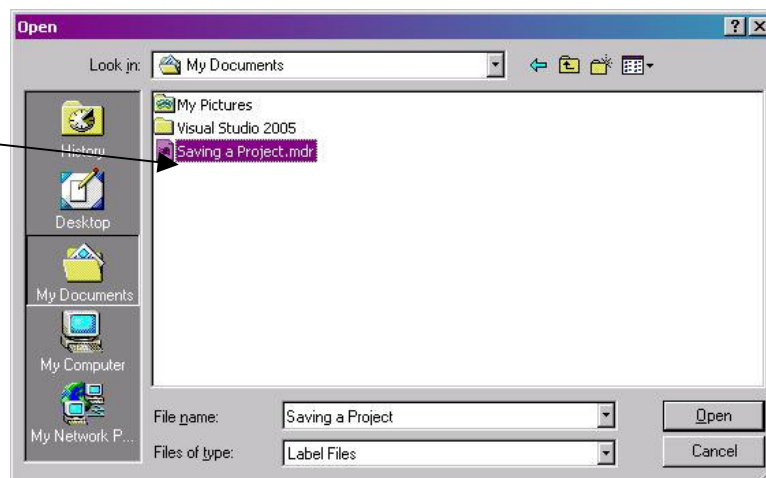

Figure 5.2.6: Selecting a project to open
2. Select, which project you, want to open (see Figure 5.2.6).